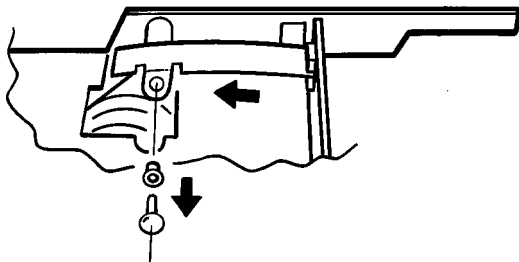
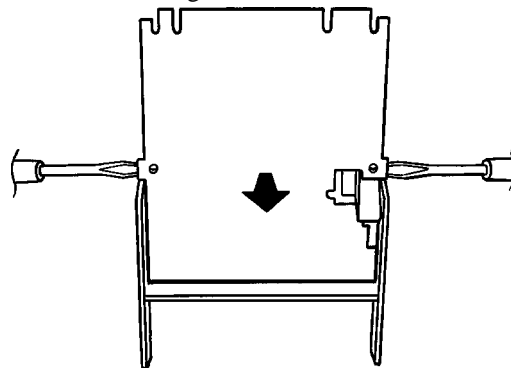

Figure 4 Static earthing shim removal
Figure 5 Releasing the control board from its mounting pillars
5. Turn the recorder upside down, remove the static earthing shim (secured by a plastic rivet) as shown in figure 4, and gently prise the control board off its mounting pillars as shown in figure 5.